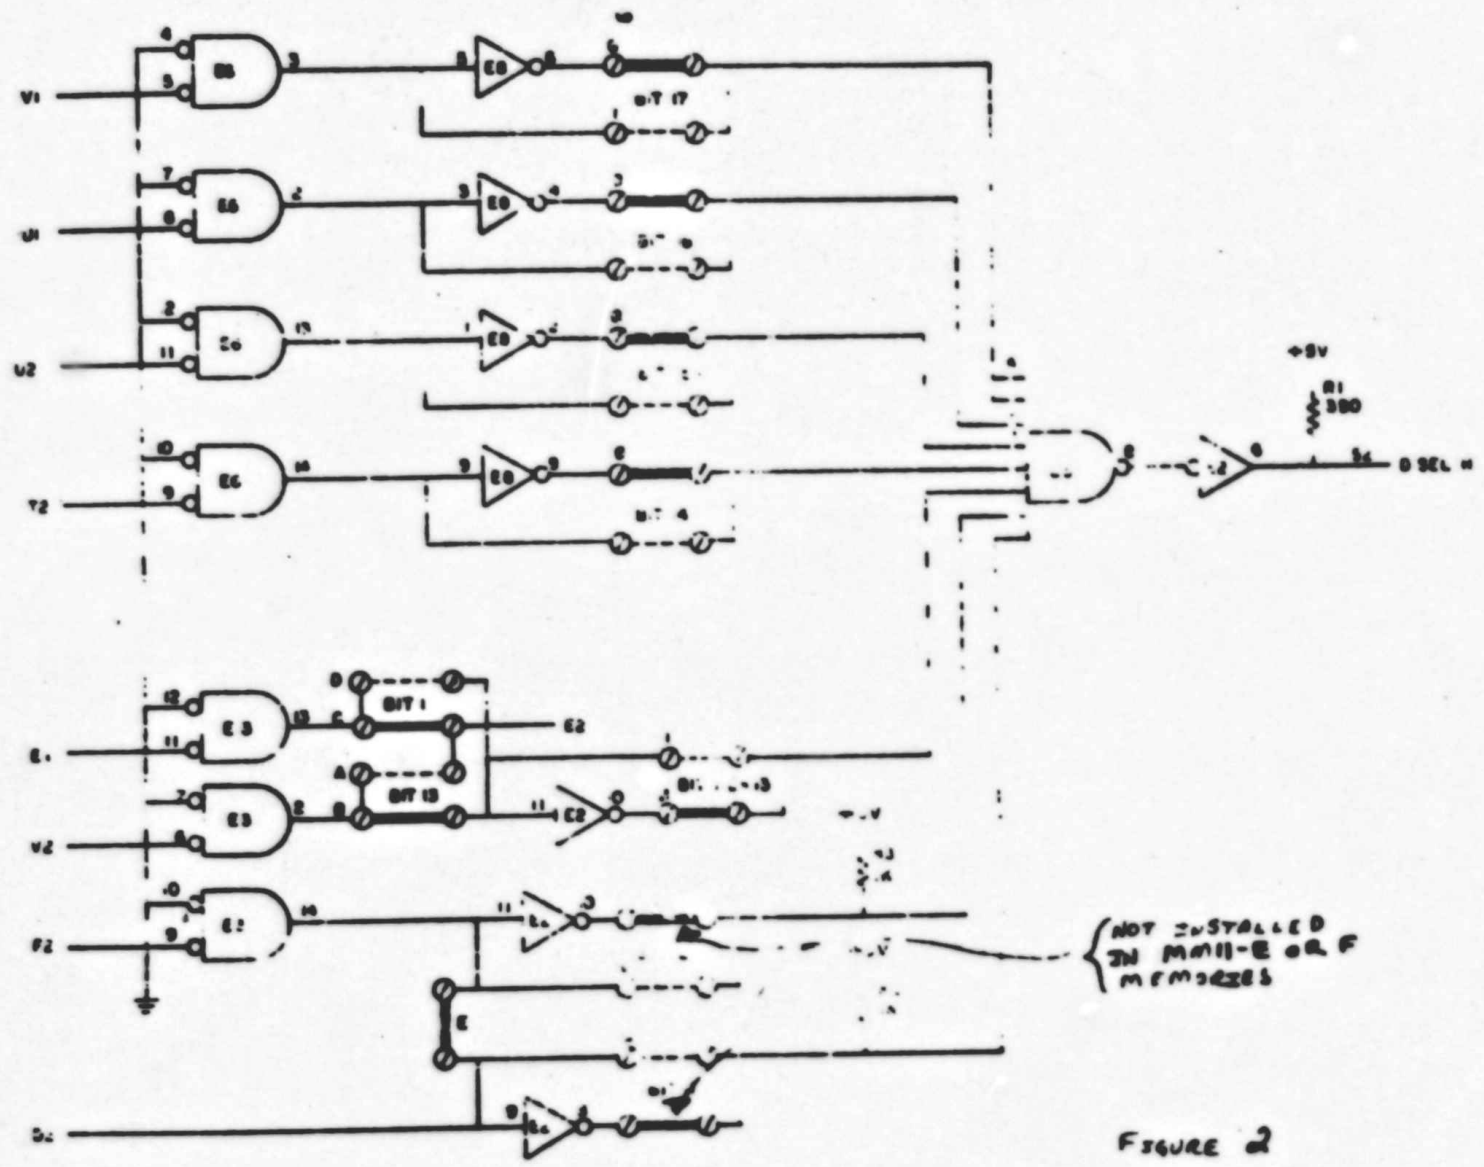

FIGURE 2
Both the M111-E and M111-F memories now utilize M1091 address selector modules. Figure 2 shows the circuit schematic of the M1091 address selection logic. Figure 1 shows a layout of that portion of the physical module where the addressing is accomplished by insertion or removal of jumper wires. Table 1 lists the following:
- b. K Words - This indicates the word quantity for a specific bank in thousands (K) words.
- d. Bits 17, 16, 15, 14, 13 and 01 Non-Interleaved - These columns show, by an X, that jumper which should be installed in order to respond to a specific memory bank addressing. The 1, 0, A, B, C and D correspond to the identification shown on the module, figure 1, and figure 2.